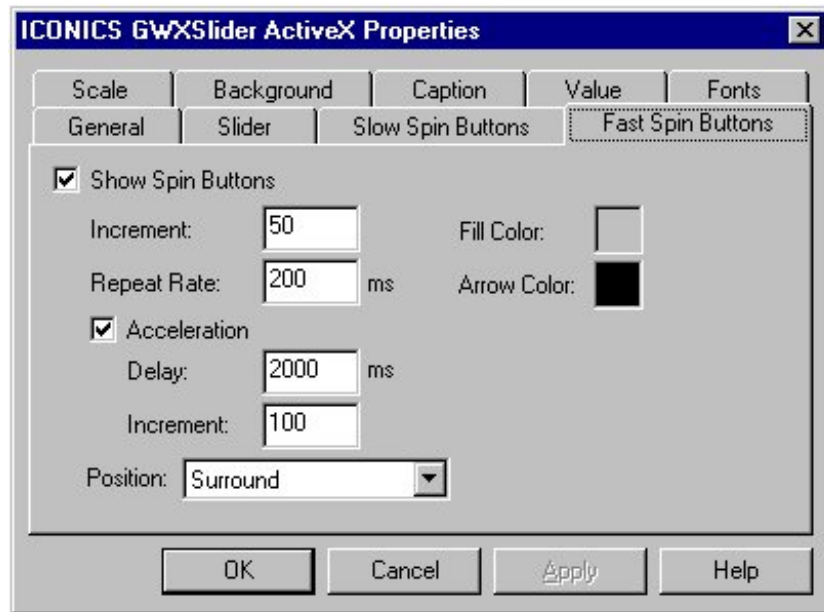

Figure 17-7: GWXSlider ActiveX Properties Dialog Box: Fast Spin Buttons
2. Select Fast Spin Buttons tab (Figure 17-7).